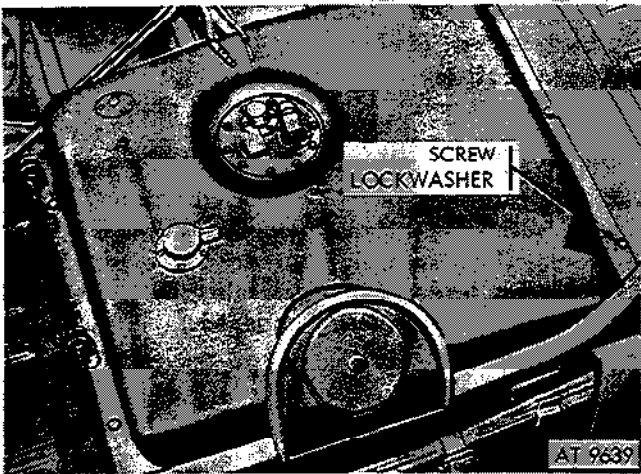

Figure 2-116. Remove screws and lockwashers from tank.
(5) Remove four fuel tank mounting screws and lockwashers (fig. 2-116).
(1) Position fuel tank in vehicle and secure with four screws and lockwashers (figs. 2-116 and 2-117).